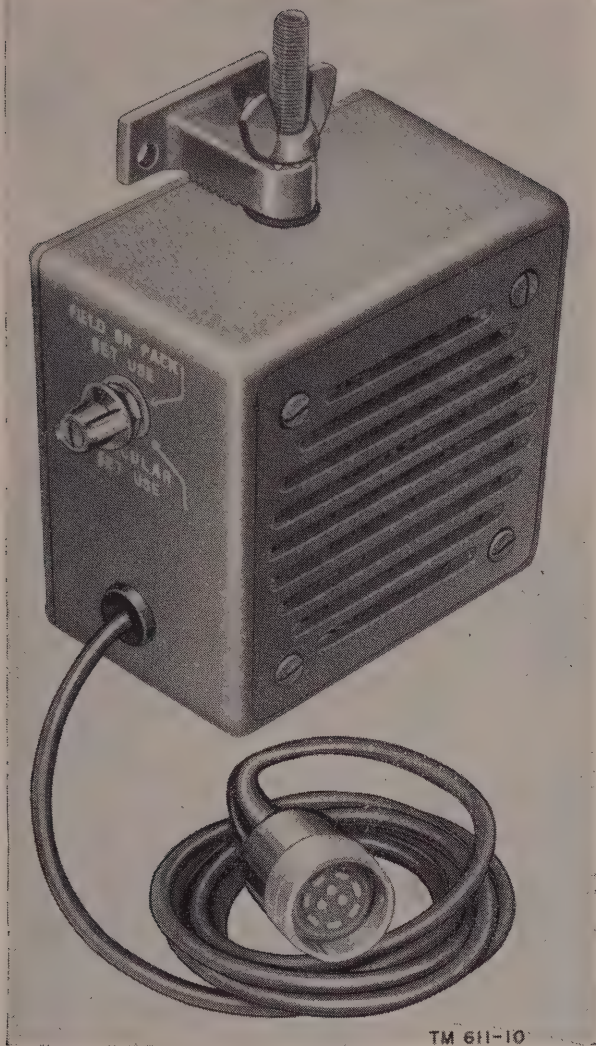

Figure 13. Dynamic Loudspeaker LS-166/U.
d. DYNAMIC LOUDSPEAKER LS-166/U. Dynamic Loudspeaker LS-166/U (fig. 13) is a 4-inch permanent-magnet dynamic loudspeaker with a voice-coil impedance of 8 ohms, and a matching transformer which provides a 600-